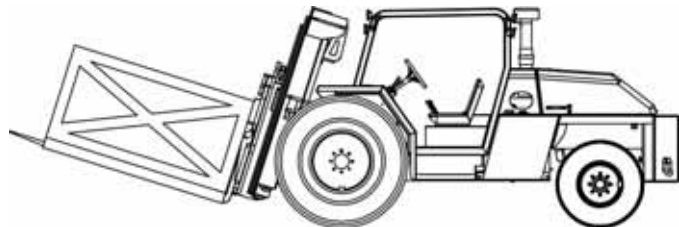

Fig 2
2. Move forward slowly, until the forks are fully engaged and the load is against the backrest. Raise the forks to lift the load. Tilt the mast back, placing the load against the backrest. Raise or lower the forks to transport position, side shift the mast to center the load as needed. *Fig 2.*